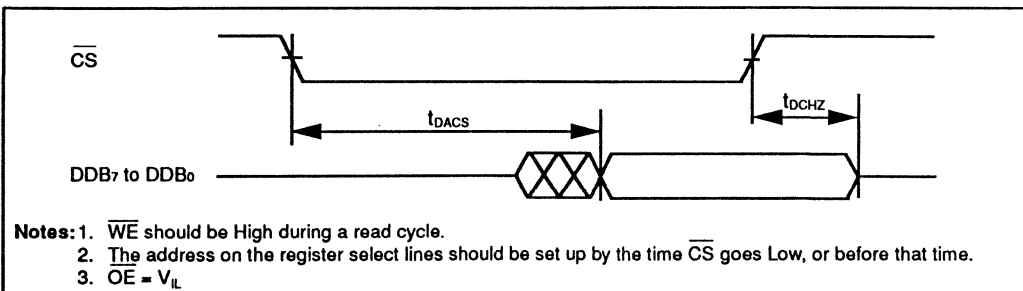

Figure 17-20. Dual-Port RAM Read Timing
17.3.8 Dual-port RAM Timing	Figures 17-20 to 17-21